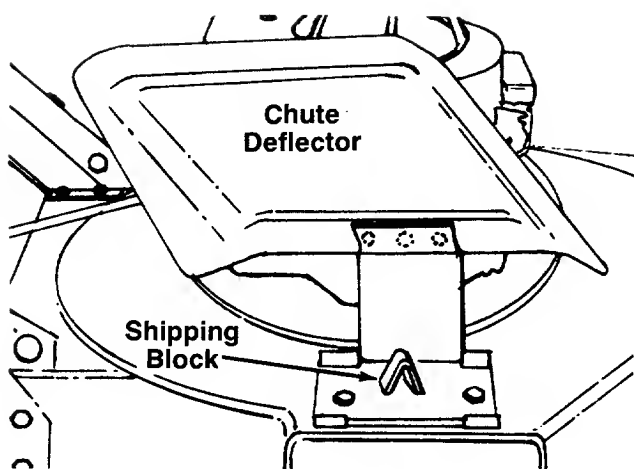

FIGURE 7.
2. The chute deflector on your mower is held in an upright position by a "V" block for shipping purposes only. This "V" block must be removed and discarded before the mower is put into operation. See figure 7.